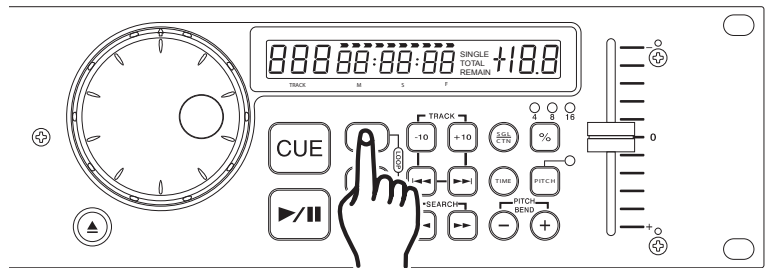

Figure 23
2) Press the IN BUTTON (3). This will set the starting point of the Loop (figure 23). The IN BUTTON (3) will blink.